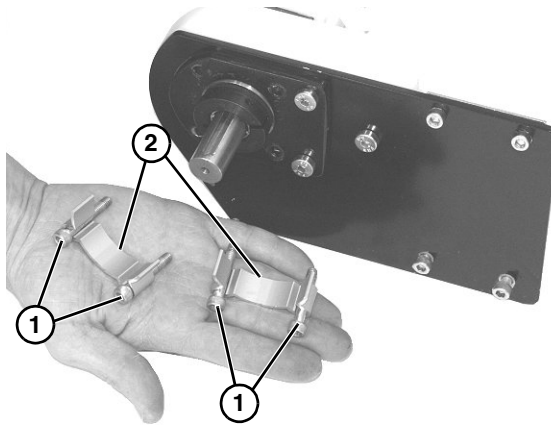

Figure 34
6. Remove four socket head screws (**Figure 34, item 1**) and drive guards (**Figure 34, item 2**).